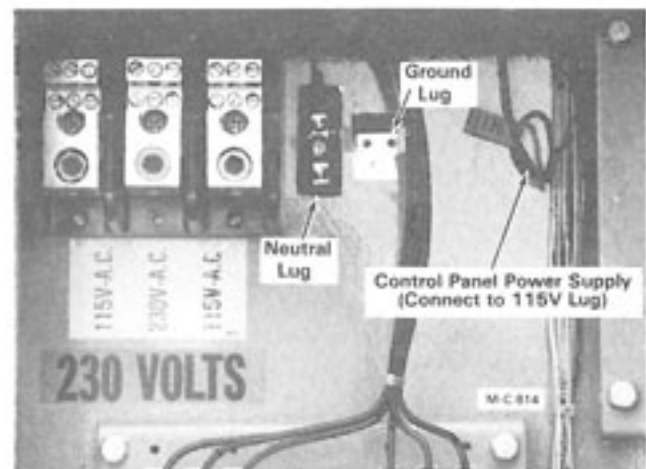

Figure 8
2. Connect the power supply to the lugs on the splitter block in the bottom control cabinet. See Figure 8.
**IMPORTANT:** The dryer controls operate on 50/60 cycle single phase 110/115V power. On 230V three phase models, the 230V power supply wire must be connected to the center lug of the splitter block as shown in Figure 8. If the 230V power supply is connected to a 115V lug and the 115V wire that supplies power to the
5. For this reason, the 115V power supply wire to the dryer control panel is not connected to the splitter block at the factory. There is a loose black wire close to the splitter block with an orange tag attached that reads "115 VOLTS." See Figure 8. Connect this wire to one of the 115 volt lugs.